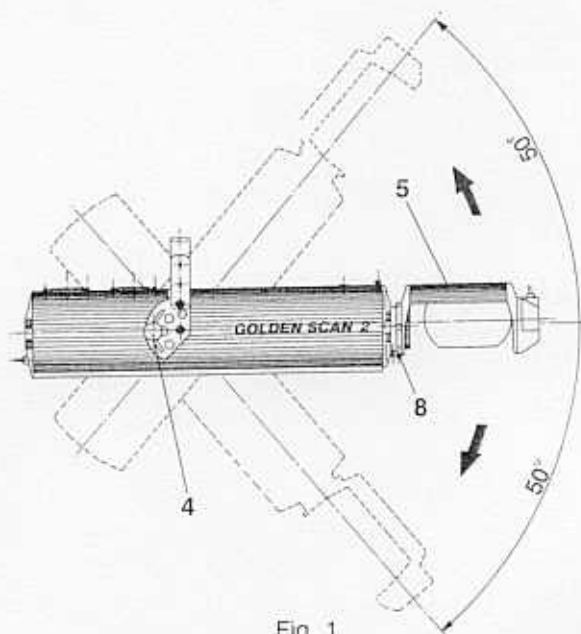

Fig. 1
The above operations having been carried out, proceed by moving the spotlight on the bracket (fig. 1) via the locking knob (4). Loosen the locking screws (8). Turn the mirror unit (5) on the spotlight body (fig. 2) until the light beam is focused to the central spot of the show. Lock the knobs (4) and the screws (8).